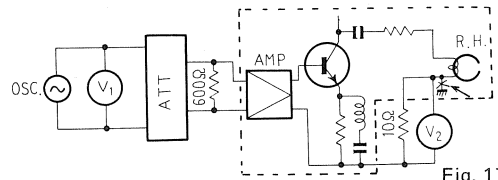

Fig. 17
1. Unsolder the ground connection from the recording head, and make the connection as shown in Fig. 17.